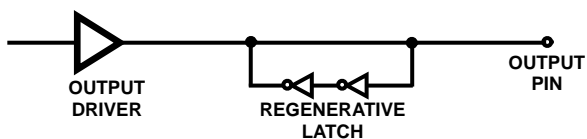

FIGURE 10. OUTPUT DRIVER AND LATCH FOR PINS AD0-AD7, A8-A15 AND IO/M.
1. An important caveat that is applicable to CMOS devices in general is that unused inputs should never be left floating. This rule also applies to inputs connected to a tri-state bus. The need for external pull-up resistors during tri-state bus conditions is eliminated by the presence of regenerative latches on the following HS-80C85RH output pins: AD0-AD7, A8-A15, and IO/M. Figure 10 depicts an output and corresponding regenerative latch. When the output driver assumes the high impedance state, the latch holds the bus in whatever logic state (high or low) it was before the tri-state condition. A transient drive current of approximately  $\pm 1.0\text{mA}$  at  $0.5\text{VDD}$  for  $10\text{nsec}$  is required to switch the latch. Thus, CMOS device inputs connected to the bus are not allowed to float during tri-state conditions.